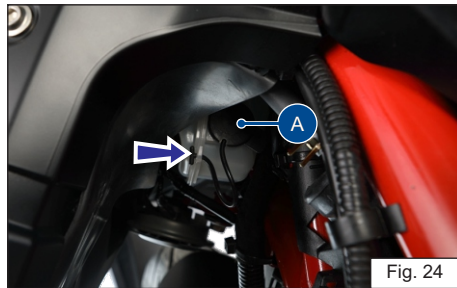

Fig. 24
A coolant reservoir tank (A) is fitted on the right side of the motorcycle below the side panels (ref. Fig. 24).